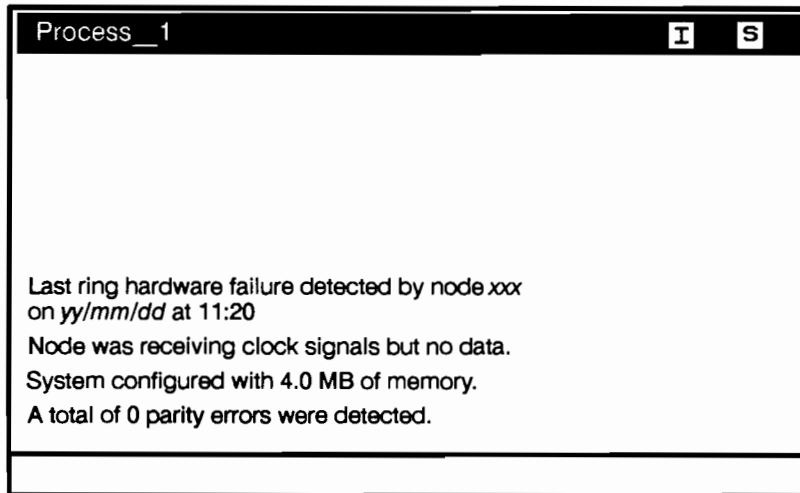

Figure 6-2. Network Communications Statistics
3. The screen now displays statistics about network communications. The last lines of the display contain the date and time of the last recorded network failure. Figure 6-2 shows a typical network reading regarding network failure.